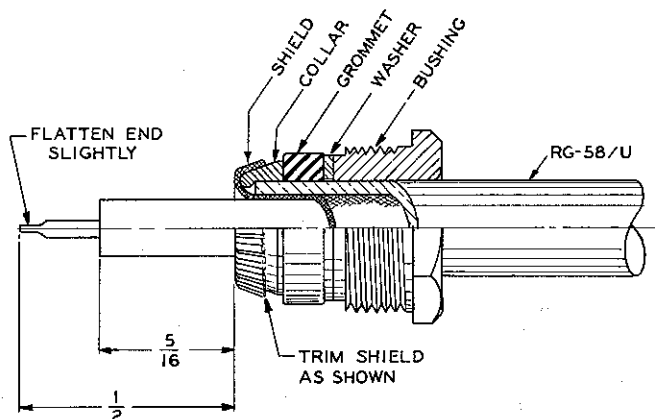

**Fig. 5-2. Connector, Plug CAWY-491859 (D-C Plug P-101)**
(1) High impedance phones may be bridged across the d-c meter, most conveniently by cutting into the long d-c cable W-102, or by using the d-c plugs P-101 from this cable together with other cables of RG-58/U made up for this purpose. Refer to Figs. 5-2, 5-3 for details of the plugs and of cable service, which does not require soldering.
(2) If an audio coupling capacitor, of .01 to 0.1 mfd. value, is used in series with the phones, the power calibration will be unaffected by the d-c shunting action of the phones.
(3) Higher audio signal level is available by connecting phones only to J-103 (i.e. d-c meter disconnected). However, where possible, it is preferred to bridge the phones across the meter.
(4) In all cases, connect an rf bypass capacitor, 100 to 500 mmf button mica, across the d-c cable (the wattmeter side) at the point where the center conductor emerges from the shield. Keep leads very short, or eliminate by soldering cable conductors directly to the bypass condenser terminals. While in most cases this precaution would be unnecessary, it would give additional protection to the crystal for occasional moments when stray voltage could be externally impressed across the phone terminals.
d. **D-C PLUGS - CABLE SERVICE** - Fig. 5-2 shows construction of the d-c plugs P-101 to P-104, Type CAWY-491859. Fig. 5-3 shows proper service of RG-58/U cable for these plugs. To remove cable from this plug unscrew the bushing and pull cable out. The center conductor of the cable makes tight contact between turns of the coil spring when assembled. For easiest assembly of cable to plug, flatten the end of center conductor as shown on Fig. 5-3, and align the resulting chisel point with turns of the spring while pushing in the serviced cable.
(1) The resistance to ground measured at D-C Jack J-103 indicates the insulation resistance of both voltmeter circuits. This resistance should be over 20 megohms. Low insulation resistance probably indicates moisture within the voltmeter housing. The various jacks and the joint between frame and cover castings are not hermetically sealed.